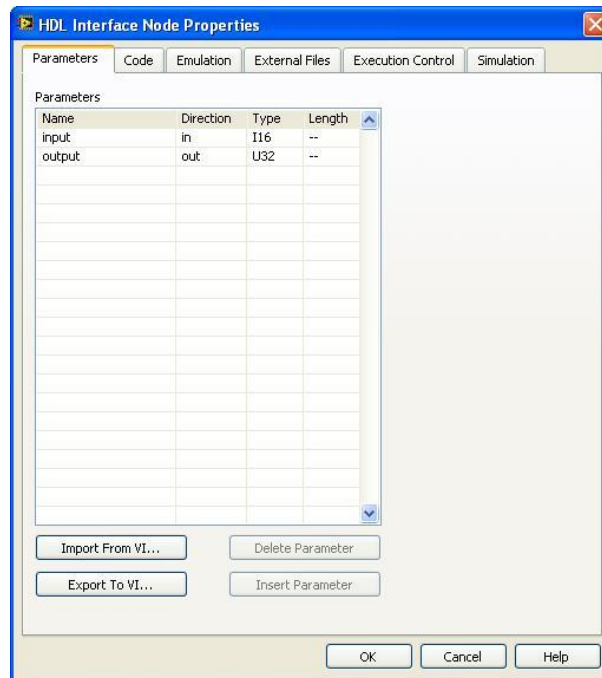

Figure 28: HDL Parameter Listing
2. Double-click the HDL Interface Node to display the **HDL Interface Node Properties** dialog box. On the **Parameters** tab, double-click the first element under name and call it "input". Select **in** as a direction and **I16** as its type. Double-click the second element under name and call it "output". Select **out** as a direction and **U32** as its type. The **Parameters** tab should look similar to Figure 28. Note that the name is case sensitive.